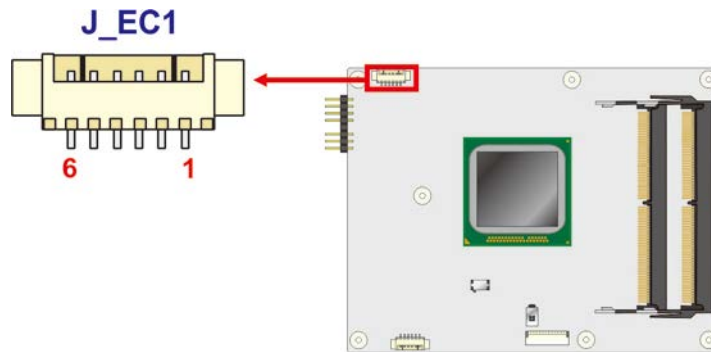

Figure 3-10: EC SPI Flash Connector Location
- CN Location:** See **Figure 3-10**